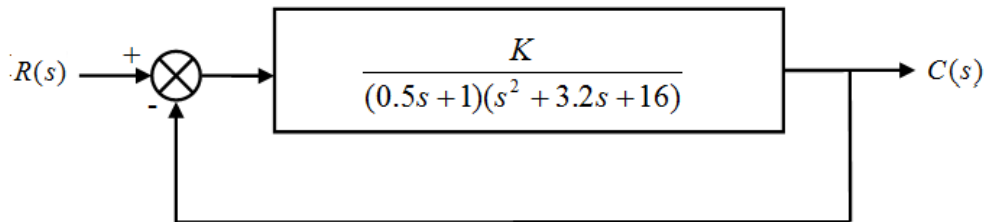

Figure 6: Crane position control system
- (a) The block diagram of a position control of a crane with load on the end of cable is shown in **Figure 6**.